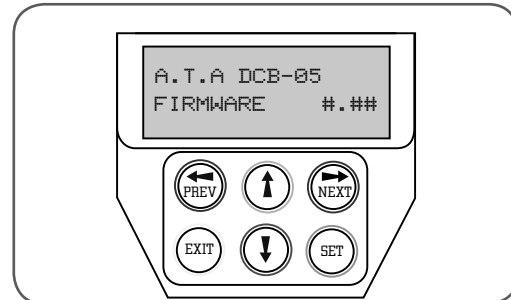

fig 23
3. After checking the initial wiring, apply power to the DCB-05. The controller will go through a startup sequence displaying the STARTUP SCREEN which indicates the controller type and firmware version **Fig. 23**.